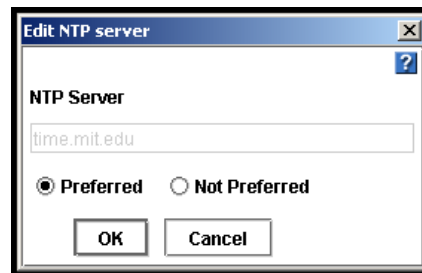

Figure 100. Editing an NTP Server
- Click Edit. The Edit NTP Server window opens, shown in Figure 100.